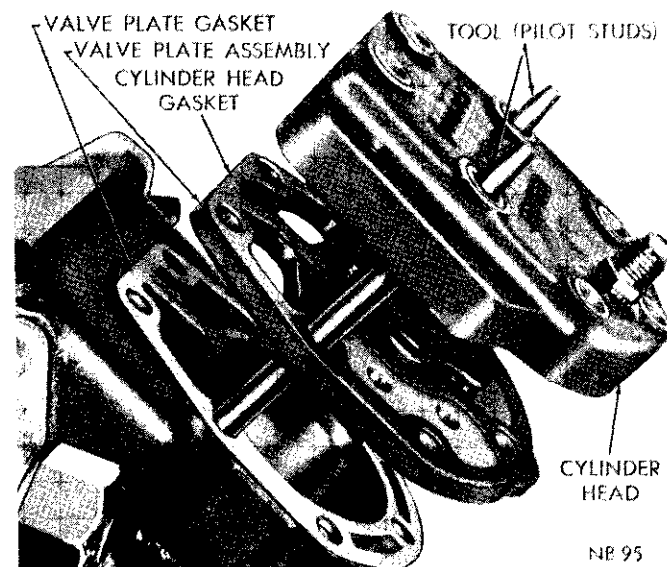

Fig. 10—Installing the Valve Plate and the Cylinder Head
(2) Using the pilot studs as a guide, install the valve plate gasket, valve plate, cylinder head gasket and cylinder head. (Fig. 10).
(3) Install the attaching bolts. Tighten each bolt alternately and evenly 18 to 24 foot-pound (name plate bolts) and 20 to 26 foot-pounds on the remaining bolts.